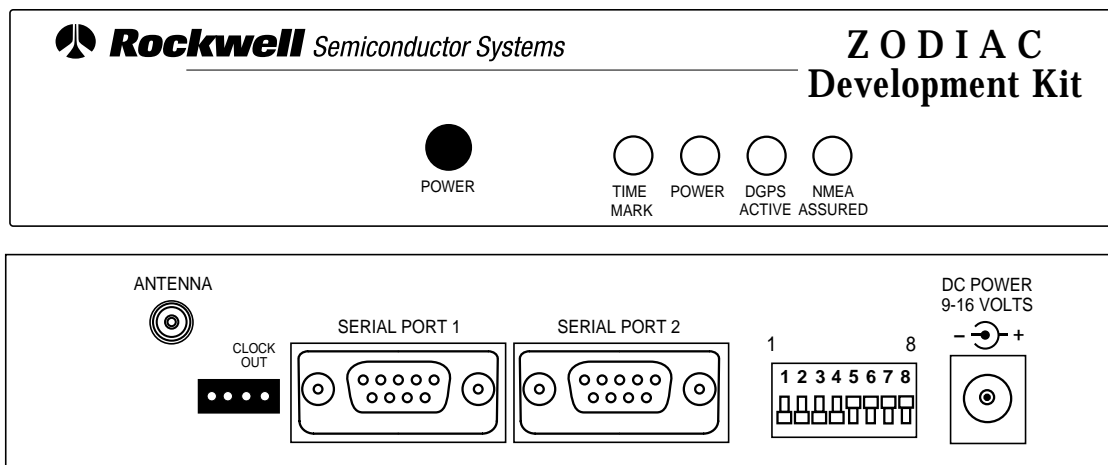

Figure 1. Front (top) and Rear (below) Panels of the Development Kit.
The Development Kit implements the receiver control operation and input/output (I/O) functions of the GPS receiver using an IBM-AT compatible personal computer (PC), a serial port, external antenna, and power supply. The GPS receiver is contained in a housing with I/O connectors, status LEDs, and configuration DIP switches as shown in Figure 1.